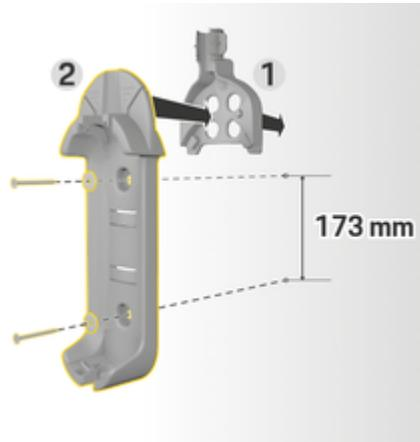

Fig. 6: Drilling dimensions
3. Press the standard wall mount **2** (Fig. 6) into the cable guide **1** (Fig. 6) from the front.